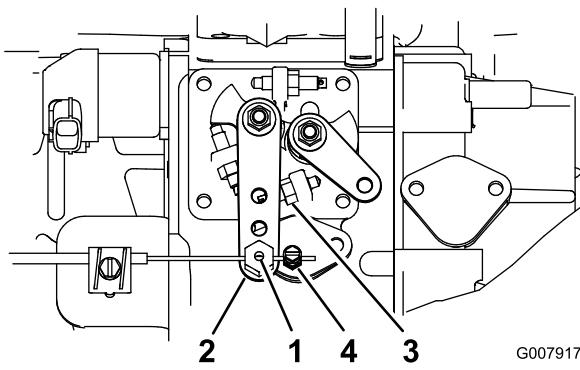

Figure 42
2. Loosen the throttle cable connector, on the throttle cable, next to the injection pump lever (Figure 42).
3. Hold the injection pump lever arm against the high idle stop (Figure 42).